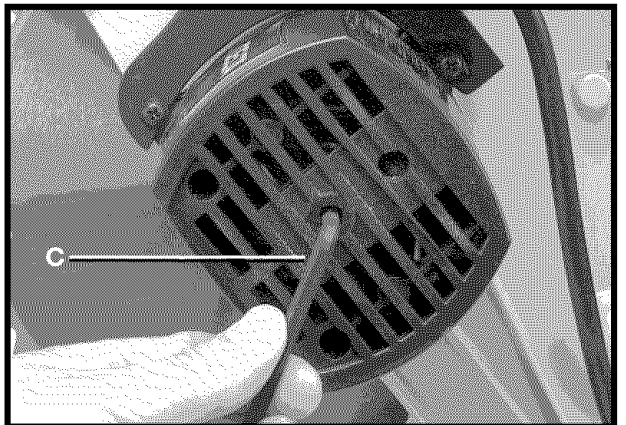
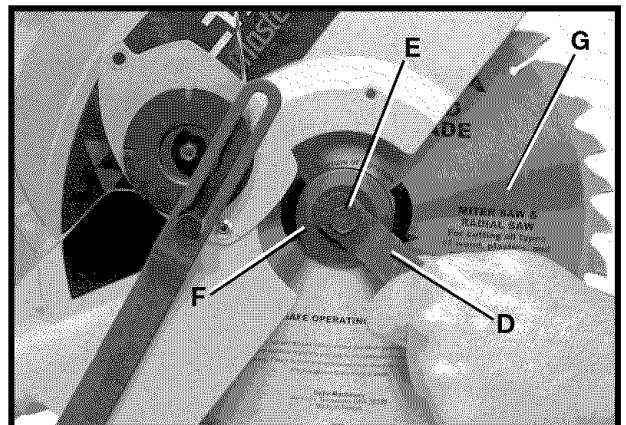

Fig. 41
Fig. 42
3. To remove the saw blade, insert hex wrench (C) Fig. 41 into the hex hole located on the rear end of the motor shaft to keep the shaft from turning.
4. Use a wrench (D) Fig. 42 to loosen arbor screw (E) by turning it clockwise.
5. Remove arbor screw (E) Fig. 42, outside blade flange (F), and saw blade (G) from saw arbor.
6. Attach new saw blade **MAKING CERTAIN TEETH OF SAW BLADE ARE POINTING DOWN AT THE FRONT.** Attach outside blade flange (F) Fig. 42, and arbor screw (E) by turning it counterclockwise using wrench (D) Fig. 42. At the same time, use hex wrench (C) Fig. 41 to keep the arbor from turning.
⚠ WARNING: REMOVE WRENCHES (C) FIG. 41 AND (D) FIG. 42 BEFORE STARTING MACHINE.